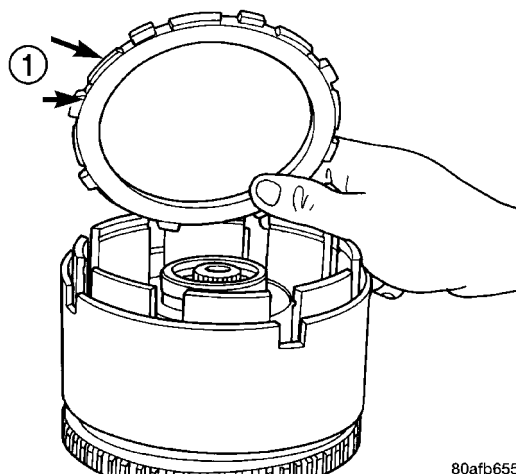
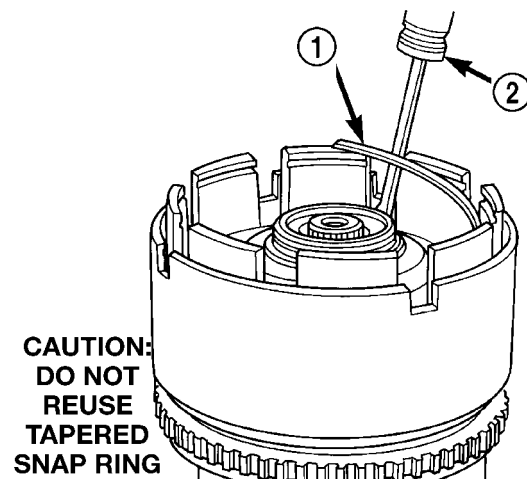

Fig. 253 OD/UD Reaction Plate
Fig. 254 Tapered Snap Ring
(13) Install the OD/UD clutch reaction plate and snap ring (Fig. 253) (Fig. 254). The OD/UD clutches reaction plate has a step on both sides. Install the OD/UD clutches reaction plate tapered step side up.